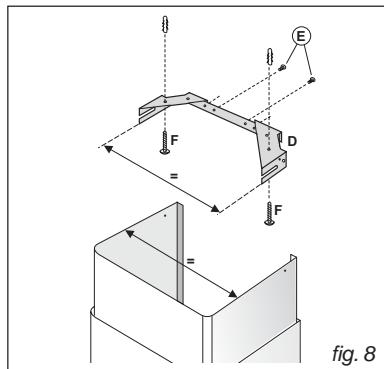

fig. 8
- Adjust the width of the support bracket (D) of the telescopic flue by means of the screws (E) as shown in Fig.8; then, by means of the screw anchors and screws (F) provided, fix the bracket to the ceiling in such a way that it is positioned along the axis with your hood.